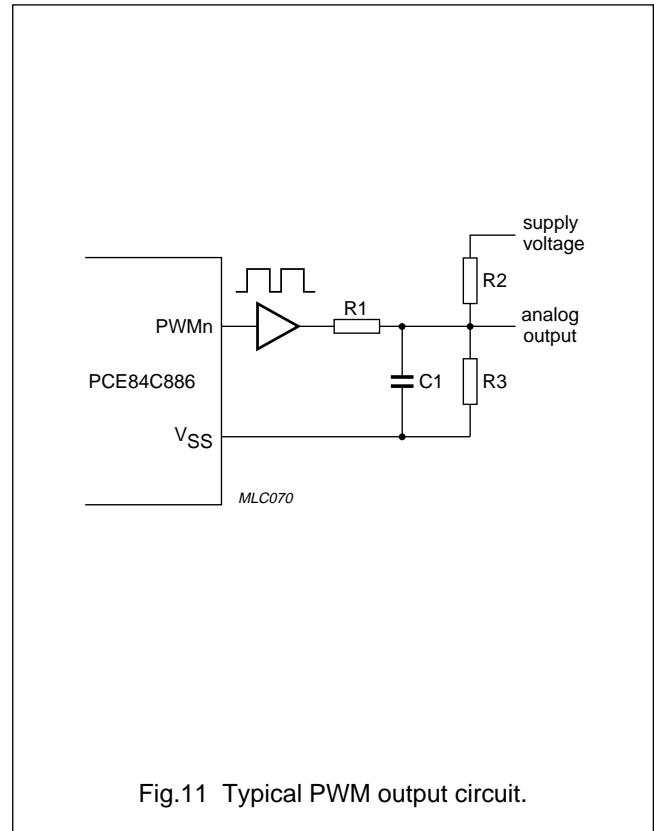

Fig.11 Typical PWM output circuit.
A typical PWM application is shown in Fig.11. The buffer is used to reduce jitter on the OSD. R1 and C1 form the integration network the time constant of which should be equal to or greater than 5 times the repetition period of the PWM output pattern. In order to smooth a changing PWM output a high value of C1 should be chosen. The value of C1 will normally be in the range 1 to 10 μF. The potential divider chain formed by R2 and R3 is used only when the output voltage is to be offset. The output voltages for this application are calculated using Equations (1) and (2).